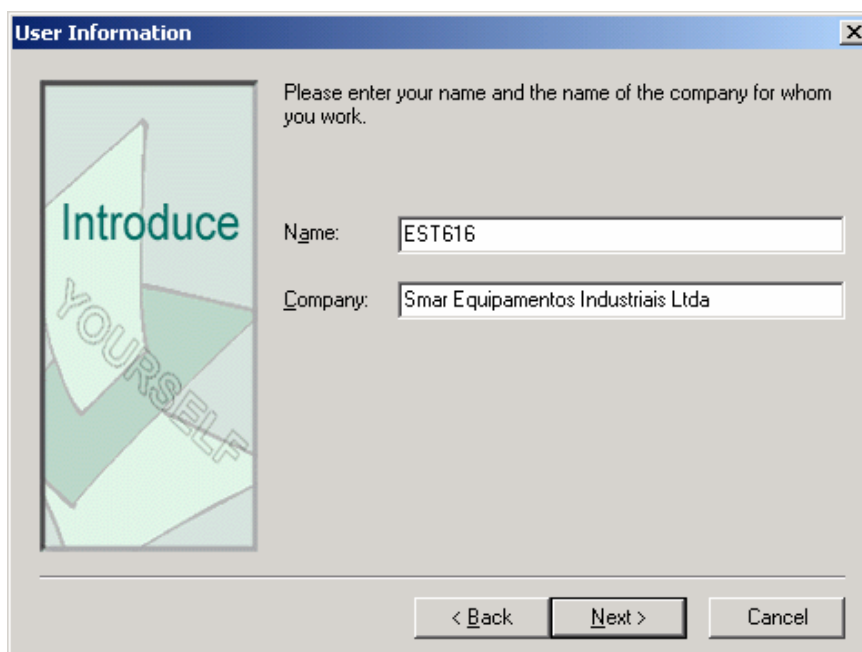

Figure 2.3. User Information
- The **User Information** dialog box appears, as shown in **Figure 2.3**. Enter your name in the **Name** field and your company information in the **Company** field. Click **Next**.